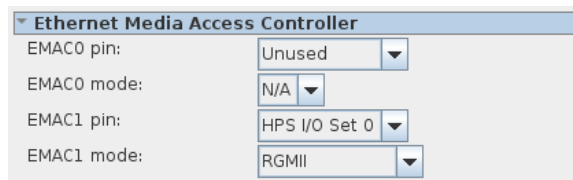

Figure 9-8. Ethernet MAC configuration
- Configure "EMAC1 pin" to "HPS I/O Set 0" and the "EMAC 1 mode" to "RGMII", as shown in Figure 9-8.